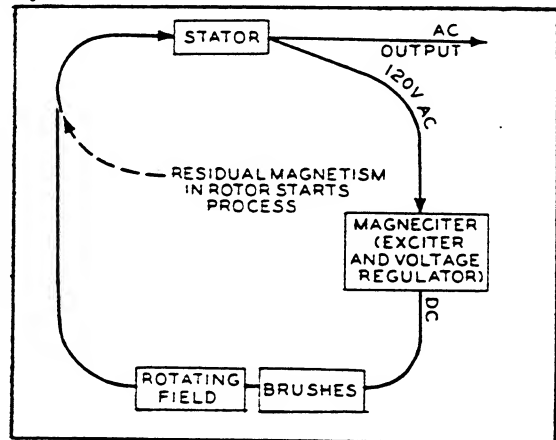

FIG. 4-1. SCHEMATIC ALTERNATOR AND EXCITER
**GENERATOR:** The generator is a synchronous four-pole, revolving field, externally-excited (generator mounted static exciter) type. The revolving field is coupled to the engine and rotates at engine speed. Field excitation voltage (DC) is supplied and regulated by the static exciter through slip rings and brushes to the field coils (Fig. 4-1). The alternating current output is tapped from the stator windings with the output leads terminated at the large terminal board on the output box. By changing the jumper connections, either 120/208, or 240/416 volts may be obtained.